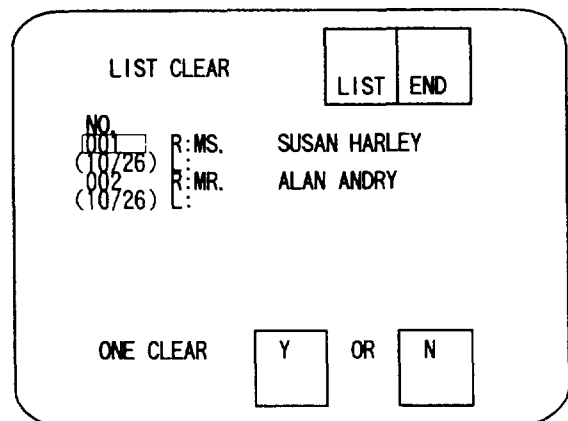

Figure 6-14 Y and N Keys
* The [Y] and [N] keys will appear when you press the [ONE], [PAGE] or [ALL] key (see Figure 6-14).